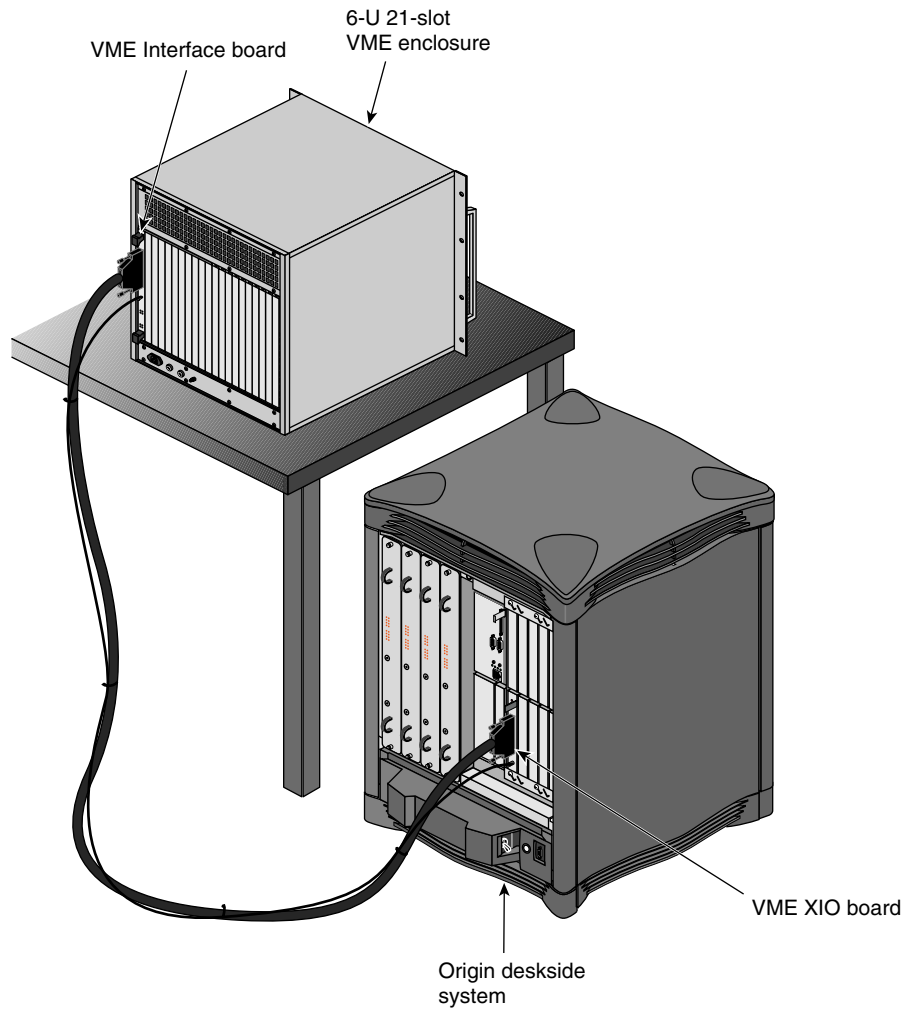

Figure 12-2 VME Bus Enclosure and Cable to an Origin2000 Deskside
In the Origin2000 (including Origin Deskside) and Onyx2 systems, external I/O is provided through the XIO interface. The VME bus and adapter is an external I/O device interfaced through one XIO slot. A typical installation is shown in Figure 12-2.
2. The XIO interface passes the word down the Craylink cable (see Figure 12-2) to the VME controller board, which is a VME 6U or 9U card mounted in the card cage.